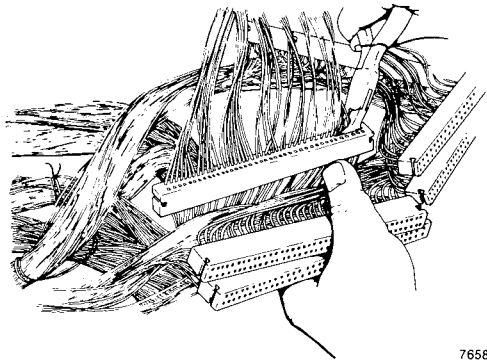

Fig. 119—Cut conductors.
- a. Use a flush cut offset pair of pliers to allow one conductor to be cut at a time. Care should be taken not to short against adjacent cut conductors. See Figure 119.